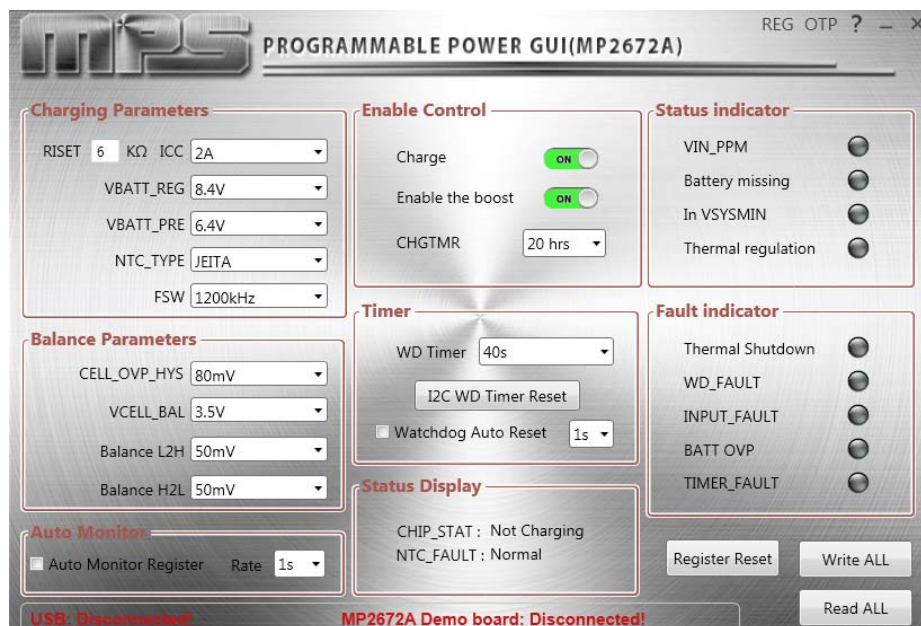

Figure 4: Main Software Window
7. Turn the computer on, then launch the MP2672A evaluation software. Figure 4 shows the main software window of the GUI software.